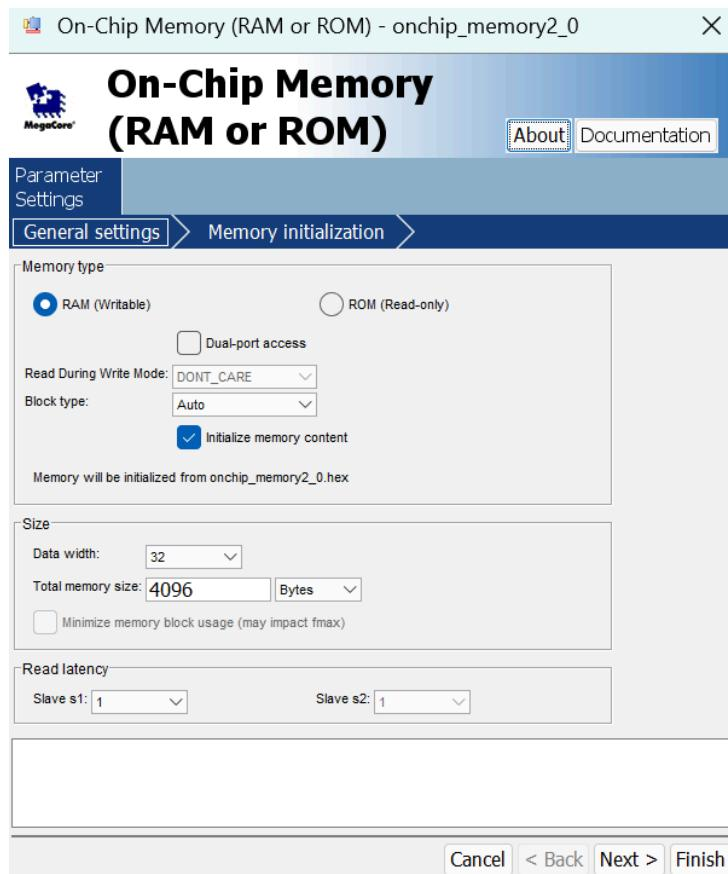

Figure 7. Define the on-chip memory
- In the On-Chip Memory Configuration Wizard (Figure 7), set the Data width to 32 bits and the Total Memory Size to 4 Kbytes (4096 bytes).